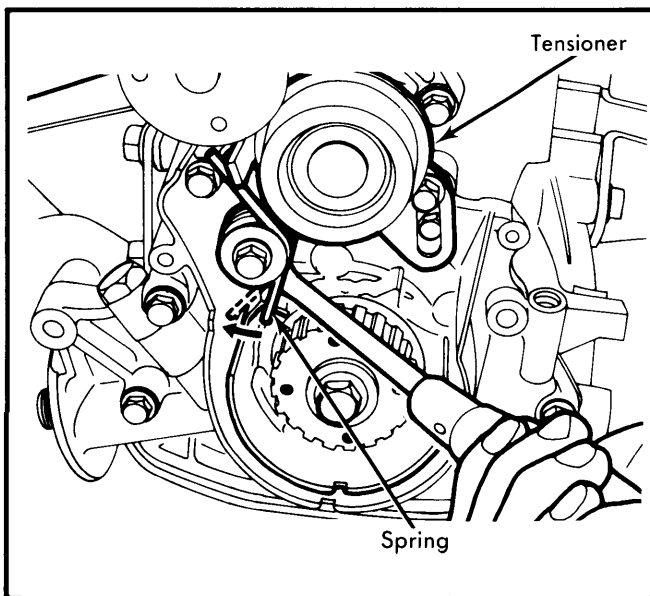

Fig. 8 Installing Tensioner on 1400 cc Engine
2) Install the timing belt tensioner, first installing the spring, and tighten the nut (1600 cc) or slotted hole side bolt (1400 cc). On 1400 cc engines, install the bottom end of the spring in the position of the case shown in Fig. 8.